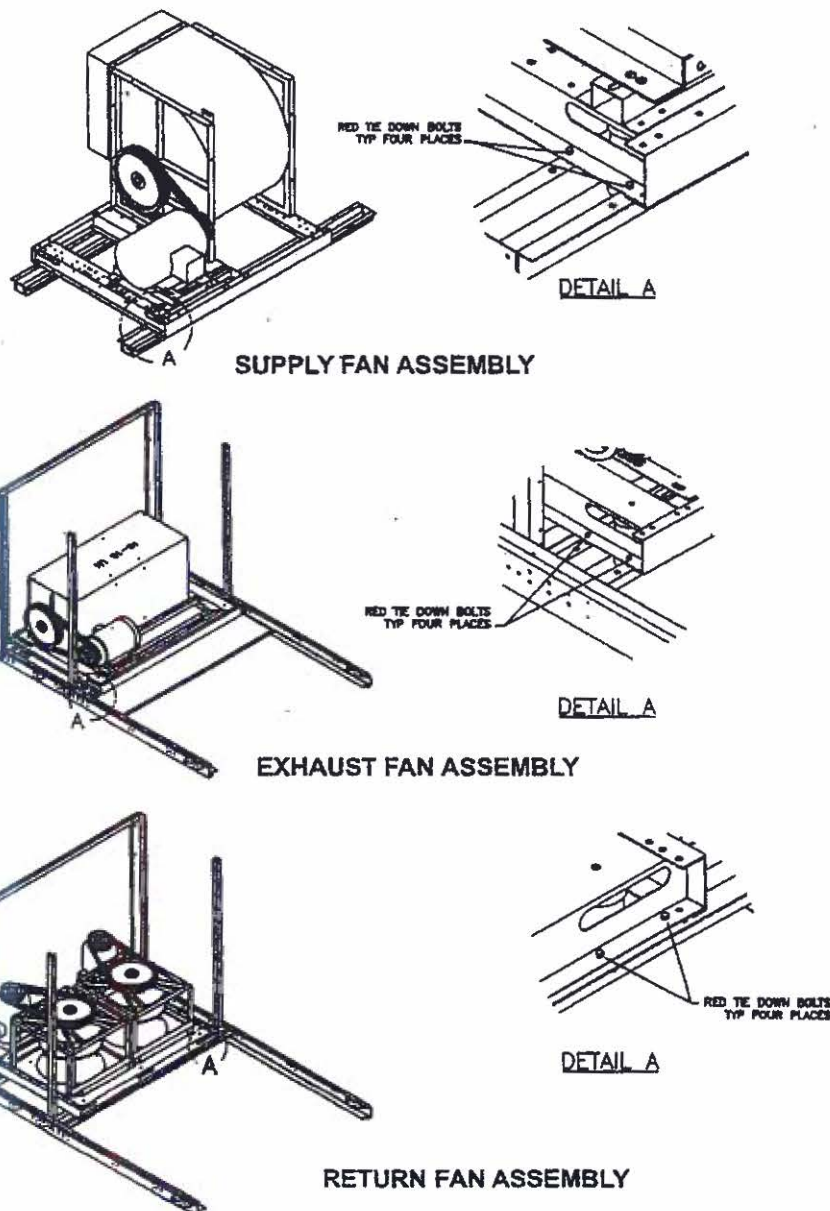

FIG. 3-1 – FAN ISOLATOR SPRING BOLTS (TOTAL OF 8)
10. Supply fan isolators spring bolts removed (refer to Figure 3-1).
The supply, exhaust and return fans have tie down bolts installed at the factory to prevent movement in the fan assemblies during shipment. **THESE HOLD DOWN BOLTS MUST BE REMOVED PRIOR TO OPERATION OF THE ABOVE FANS.** There are eight bolts per assembly two at each corner of the fan skirts, front and rear. The bolt locations are shown in Figure 3-1. The bolt heads are red in color and a label identifies their location in the unit.